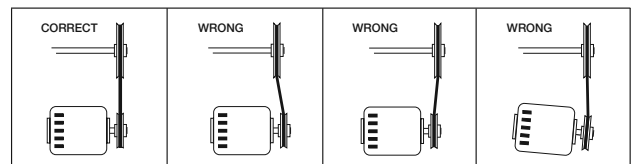

Figure 10
7. If adjustments are made, it is very important to check the pulleys for proper alignment. Misaligned pulleys lead to excessive belt wear vibration, noise and power loss, see Figure 10.